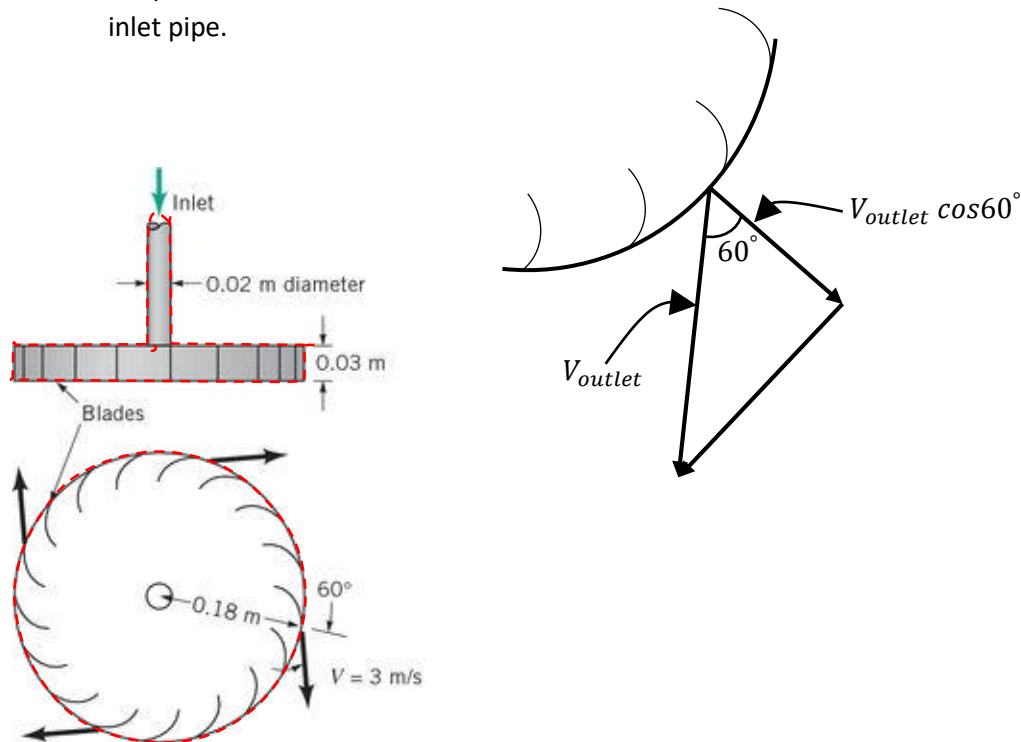

Figure 1. Problem 1
1. Water flows out through a set of thin, closely spaced blades as shown in Fig. 1 with a speed of $V = 3 \text{ m/s}$ around the entire circumference of the outlet. Determine the mass flowrate through the inlet pipe.